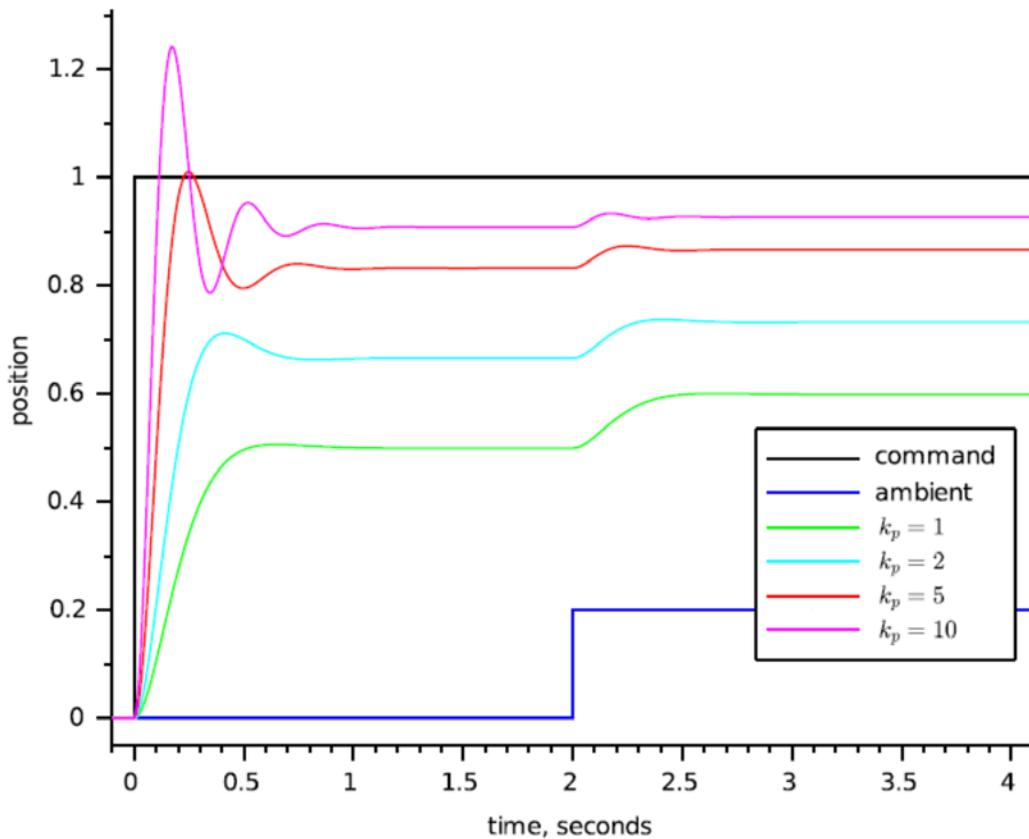
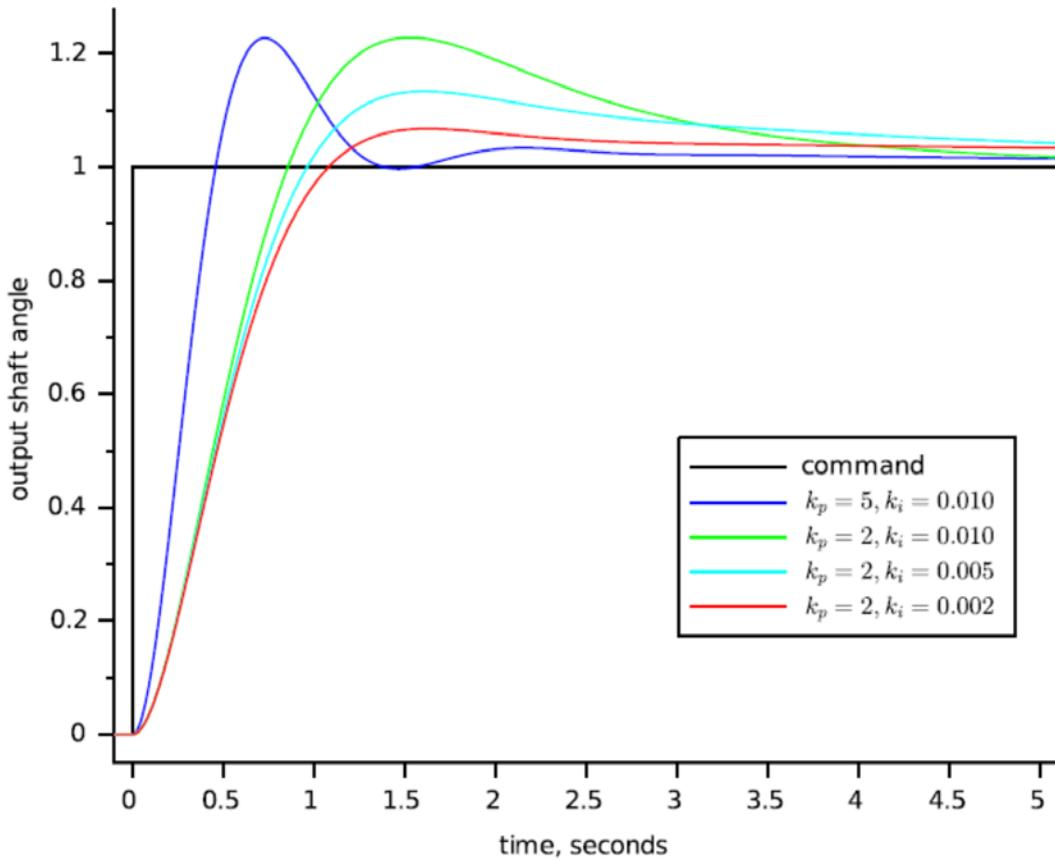

Figure 5: Temperature controller with proportional feedback. The kink at time = 2 is from the external disturbance [1].
Figure 7: PID control response [1].
Figure 5 shows what happens when one adds proportional feedback to the motor and gear system. The motor goes to the correct target for small gains ( $k_p = 1$ ), but it does this quite slowly. Increasing the gain ( $k_p = 2$ ) speeds up the response to a point. Beyond that point ( $k_p = 5$  or  $10$ ), the motor starts out faster, but it overshoots the target. In the end, the system does not settle any quicker than it would have with low gain, but there is more overshoot. If gain continues to be increased, it most will eventually reach a point where the system just oscillates around the target and never settles. The system would be unstable.
Meanwhile, Figure 7 shows the motor and gear with proportional-integral (PI) control. Compare this with Figures 5 and 6. The position takes longer to settle than the system with pure proportional control, but it will not settle to the wrong spot.